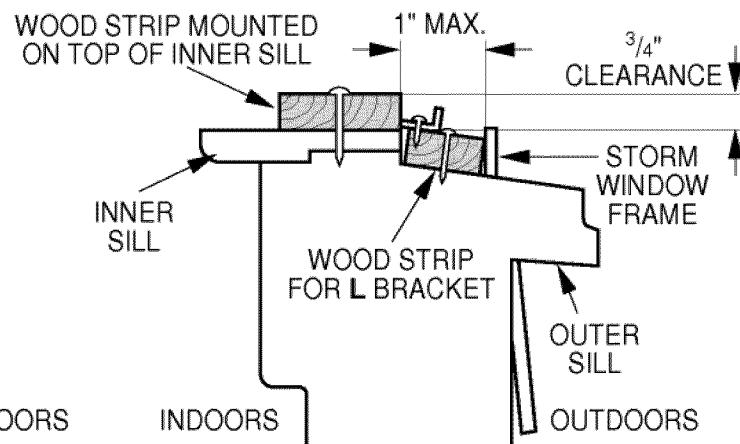

Fig. 5-2
2. If storm window presents interference, fasten a 2" wide wood strip to the inner window sill across the full width of the sill. The wood strip should be thick enough to raise the height of the window sill so that the unit can be installed without interference by the storm window frame. See Fig. 5-2. The top of the wood strip should be approximately $\frac{3}{4}$ " higher than the storm window frame (STORM WINDOW FRAME) or wood strip (OUTDOORS) to help condensation to drain properly to the outside.
3. Install a second wood strip (approximately 6" long by $1\frac{1}{2}$ " wide and same thickness as first strip) in the center of the outer sill flush against the back off the inner sill. This will raise the L bracket as shown Fig. 5-2.